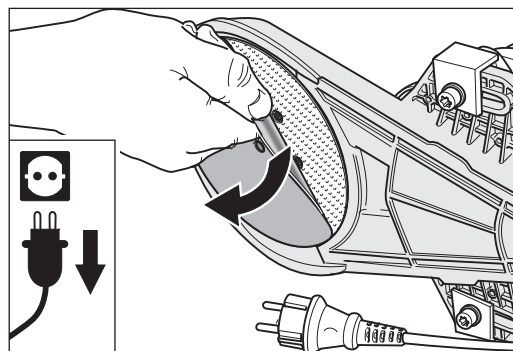

Fig. 10 Remove the Velcro sanding disc from the sanding plate.
- 4 Pull the worn-out Velcro sanding disc off of the sanding plate (Fig. 10).